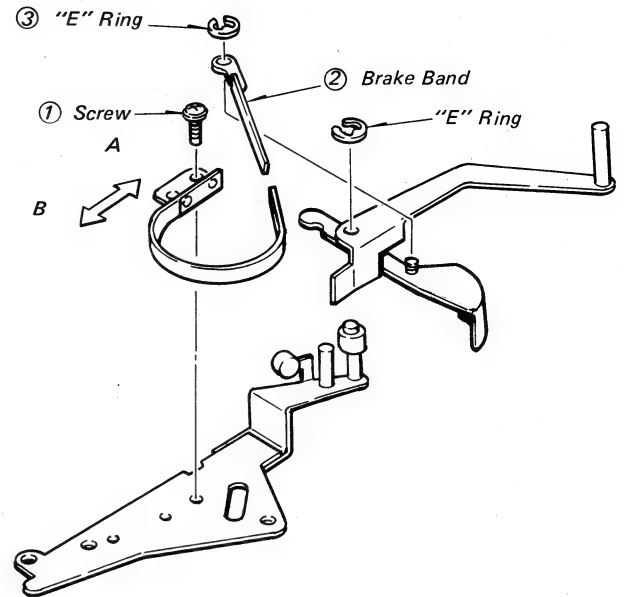

Fig. 5-36 Brake Band Assembly.
1. Loosen the screw ⑥.
2. Move the tension lever ⑤ in the A direction for narrow clearance, or move it in the B direction for wide clearance. (see Fig. 5-36.)
3. After adjustment, firmly tighten the screw ⑥.
5-2-17 Replacing the Band Brake (see Fig. 5-36)